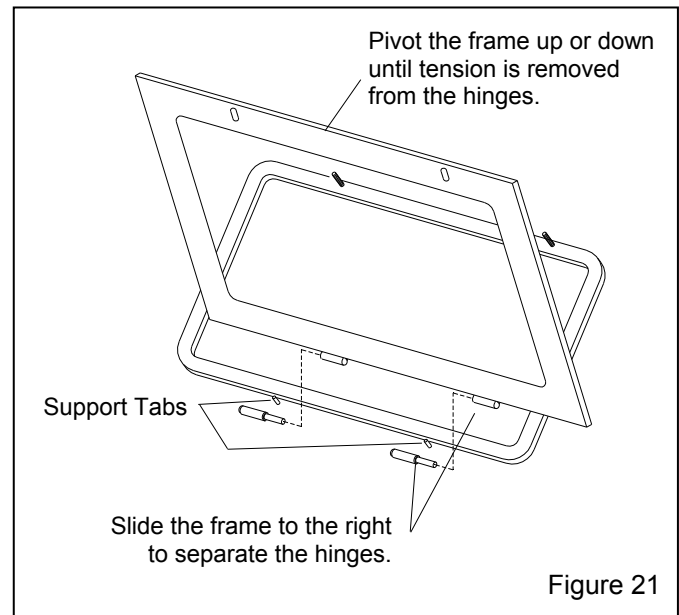

Figure 21
7.6 Window Frame Removal, Figure 21
7.6.4 To remove, slide the frame to the right. The hinges separate as shown in Figure 21.